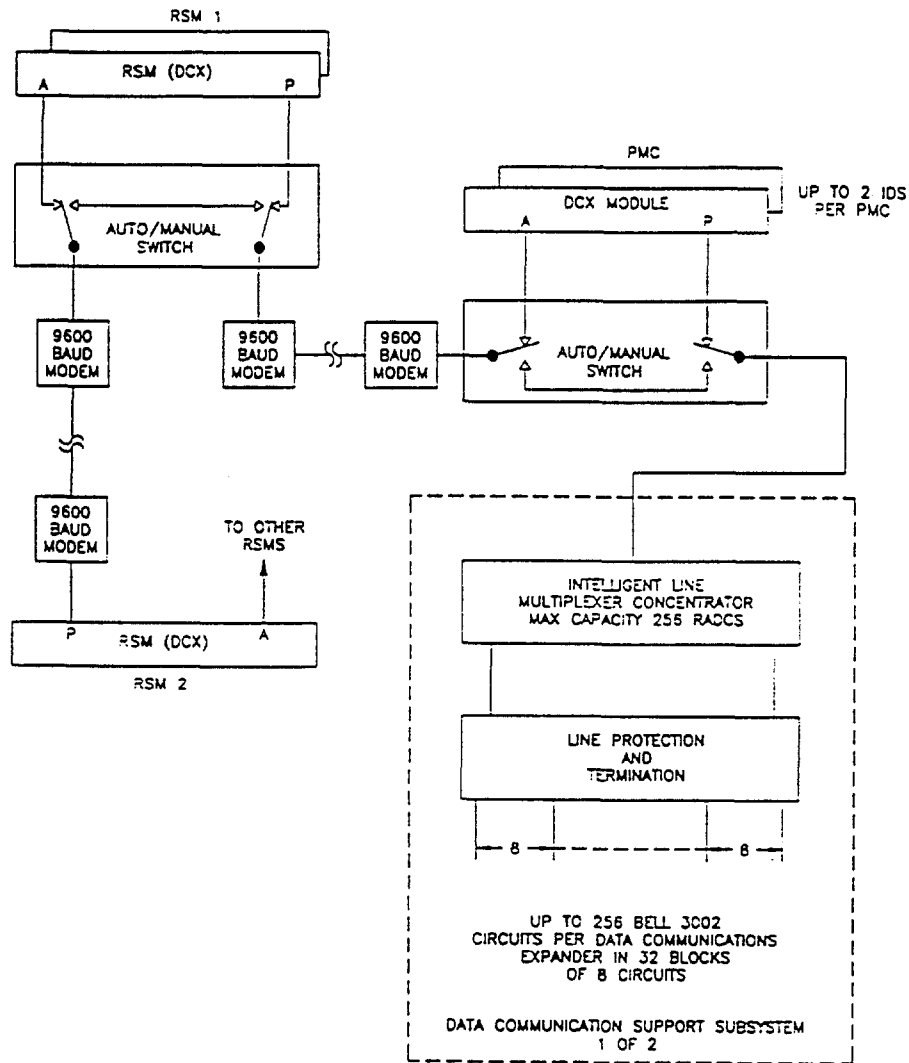

Figure 1-23. ICIDS Data Communications Interface-General Block Diagram
**b. Data Communications Interface.** The ICIDS Data Communication Interface, shows the PMC to RSM link in addition to the PMC end of the direct data link to the RADCs (see Figure 1-23). One of two Data Communications Expanders (DCX) is shown with the poll (P) and auto/manual switch to the RSMs. Each DCX contains its own communications processor and memory which, in turn, communicates with the CPU, which relieves the CPU of this communication burden.